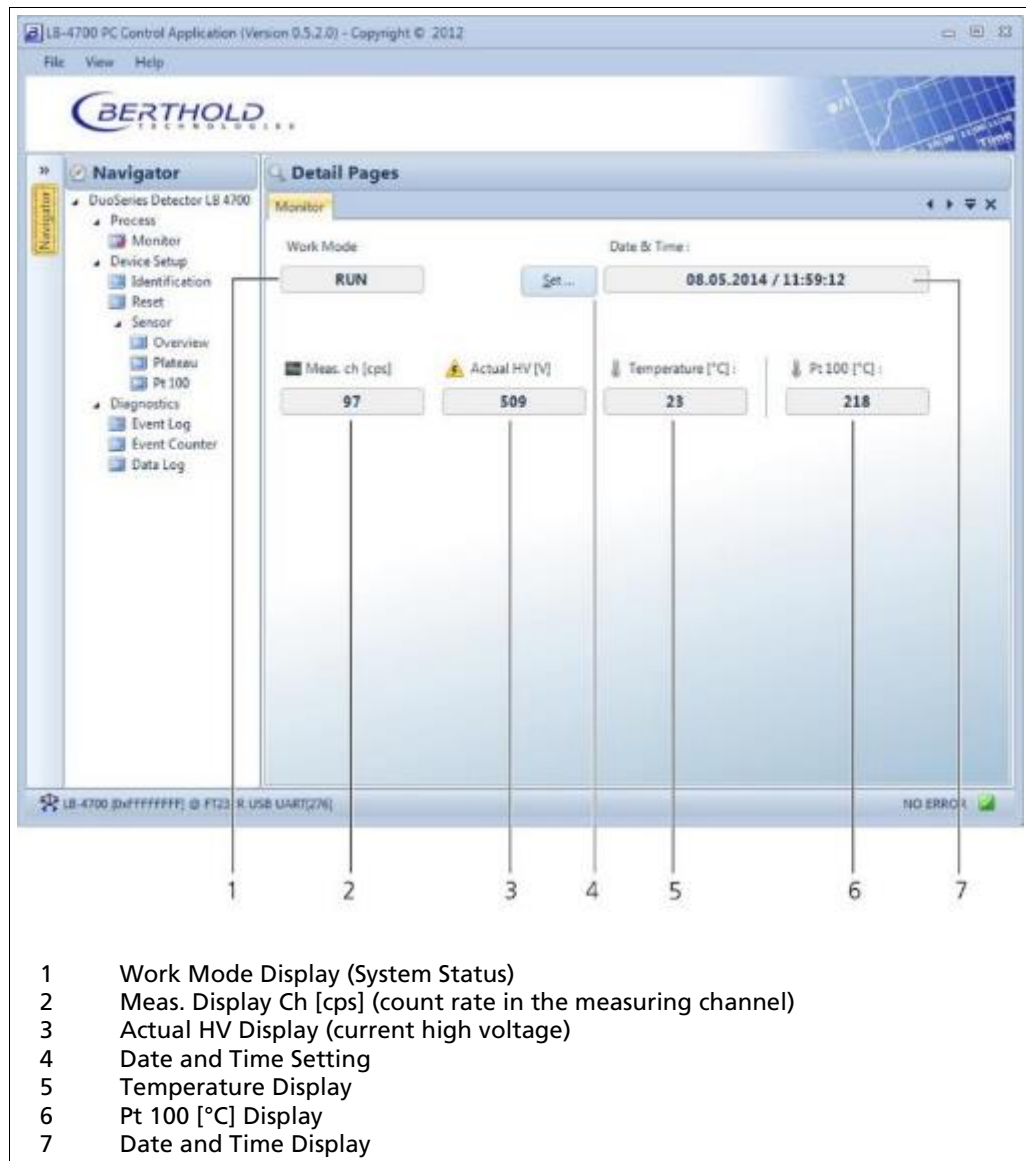

Fig. 31 Process | Monitor
1. Navigate in the navigator with a double click on the corresponding submenu (Fig. 31, item 1).
2. Once opened submenus remain open and can be viewed by clicking on the appropriate tab. (Fig. 31, item 2).
3. Open selection lists by clicking on the arrow button on the right side of the list field (Fig. 31, item 3).
4. Click in the input field to enter the desired values (Fig. 31, item 4). A red outline indicates the clicked box.